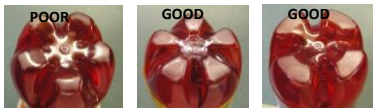

Figure 3.
**Select a Bottle.** **Carbonated** beverage bottles are not supplied with the Rabbit Rocket kit. Select a bottle at your local supermarket in the special section for flavored drinks. Select a 17 oz. **carbonated** beverage bottle with straight sides and about 2.4 inches in diameter to fit with the Rabbit Rocket wrap. To optimize adhesion of the nose, select a bottle with large flat surface area on the bottom, figure 3. **WARNING: SELECT ONLY A PLASTIC CARBONATED DRINK BOTTLE.** This type of bottle is designed to withstand internal pressure, other types of bottles are unsuitable. Additionally, the threads of the Rabbit Rocket nozzle are not designed to engage with a non-**carbonated** drink bottle. **NOTE:** Bottles larger than 17 oz. require more water per launch and also require more pressurized air. The Rabbit Rocket kit is designed for the 17 oz. bottle because it gives the most fun for the least amount of effort.